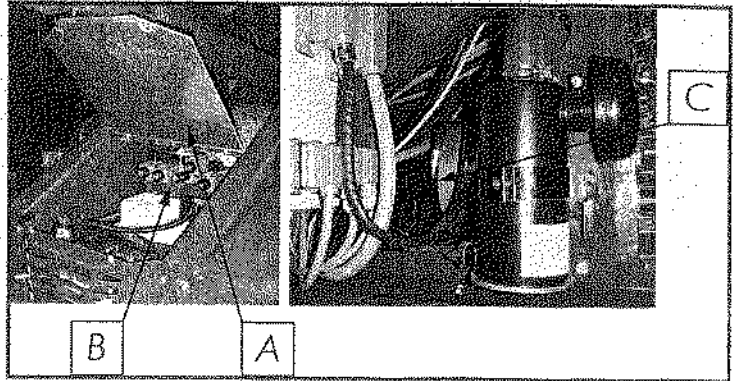

Figure 11-1
1. Open upper cover A of the turntable (figure 11-1).
2. Open the turntable side cover on the fuel tank side. You can get at the adjusting screws of the adjuster of hydraulic pump C (figure 11-1) most easily through the opening between the diesel engine air filter and turntable electric box.